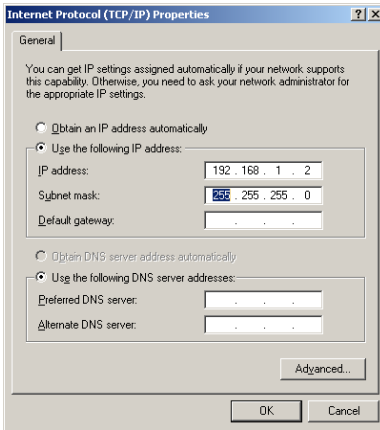

Figure 14: Internet Protocol (TCP/IP) Properties Window
6. Select Use the following IP Address, and fill in the details as shown in Figure 14.